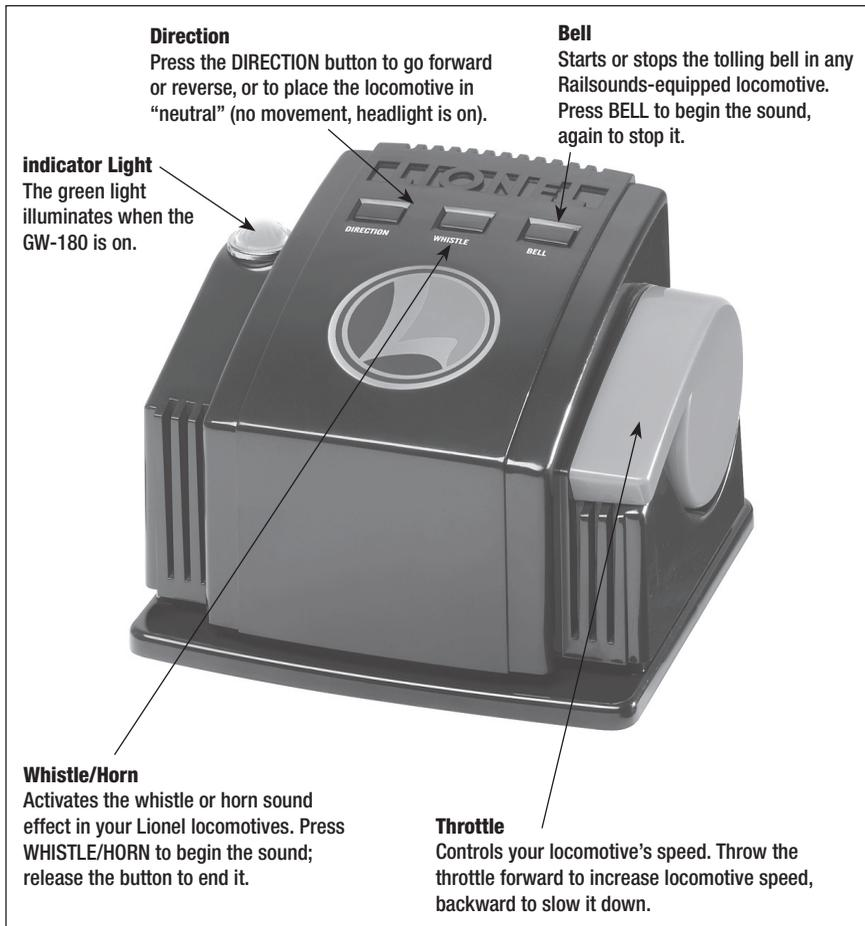

Figure 6. Transformer features
**R**efer to Figure 6 on page 11 for the location of the transformer features listed in this section.
- 2. Press and hold down the DIRECTION, WHISTLE/HORN, and BELL buttons on the Controller. Refer to Figure 6 for the location of these buttons.**